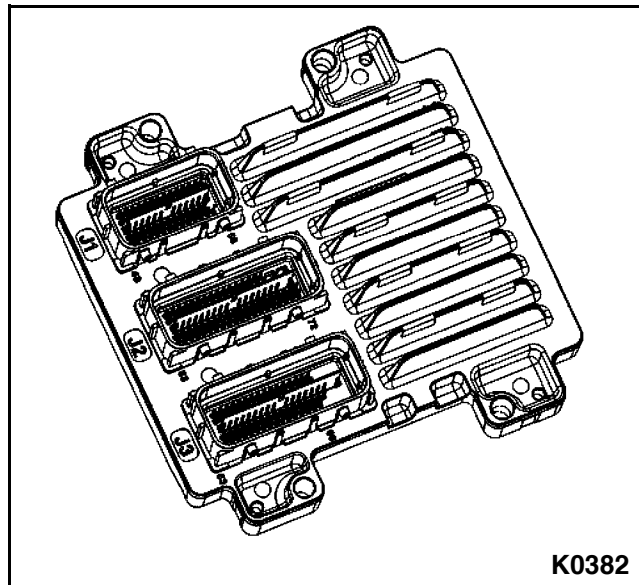

Figure 4-8
2. **For LPG fuel only**, connect wire N20 from the fuel pressure regulator to wire 45 from the ECM wiring harness using the quick-connect adapters. See Figure 4-8.
2. Disconnect wire N20 and wire 45. See Figure 4-8.